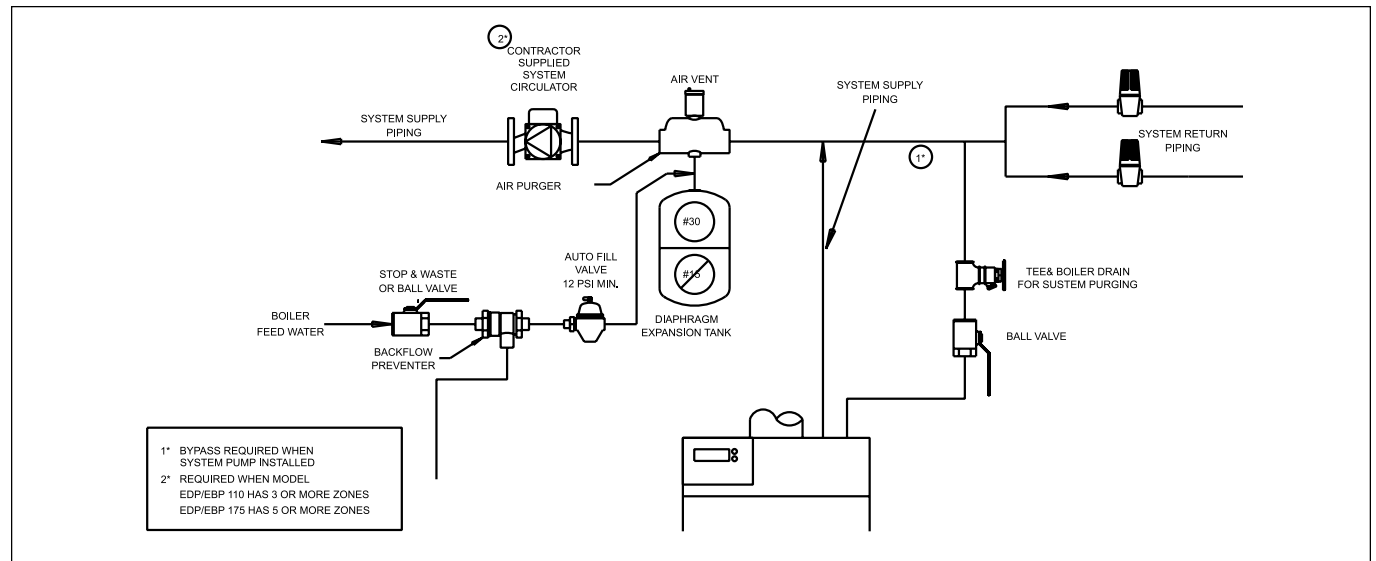

Figure 15. Hydronic Piping EDP/EBP with Zone Valves.
4. Install an air purger in flow supply line as shown in Figures 15, 16 or 17.